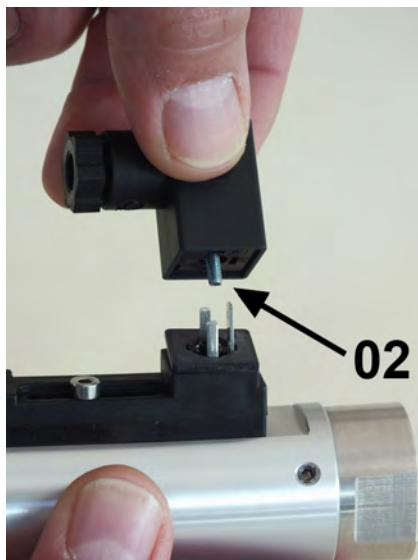

Fig. 54: Remove the female socket
2. ➤ Remove the female socket and gasket (Fig. 54/02) by pulling upwards.